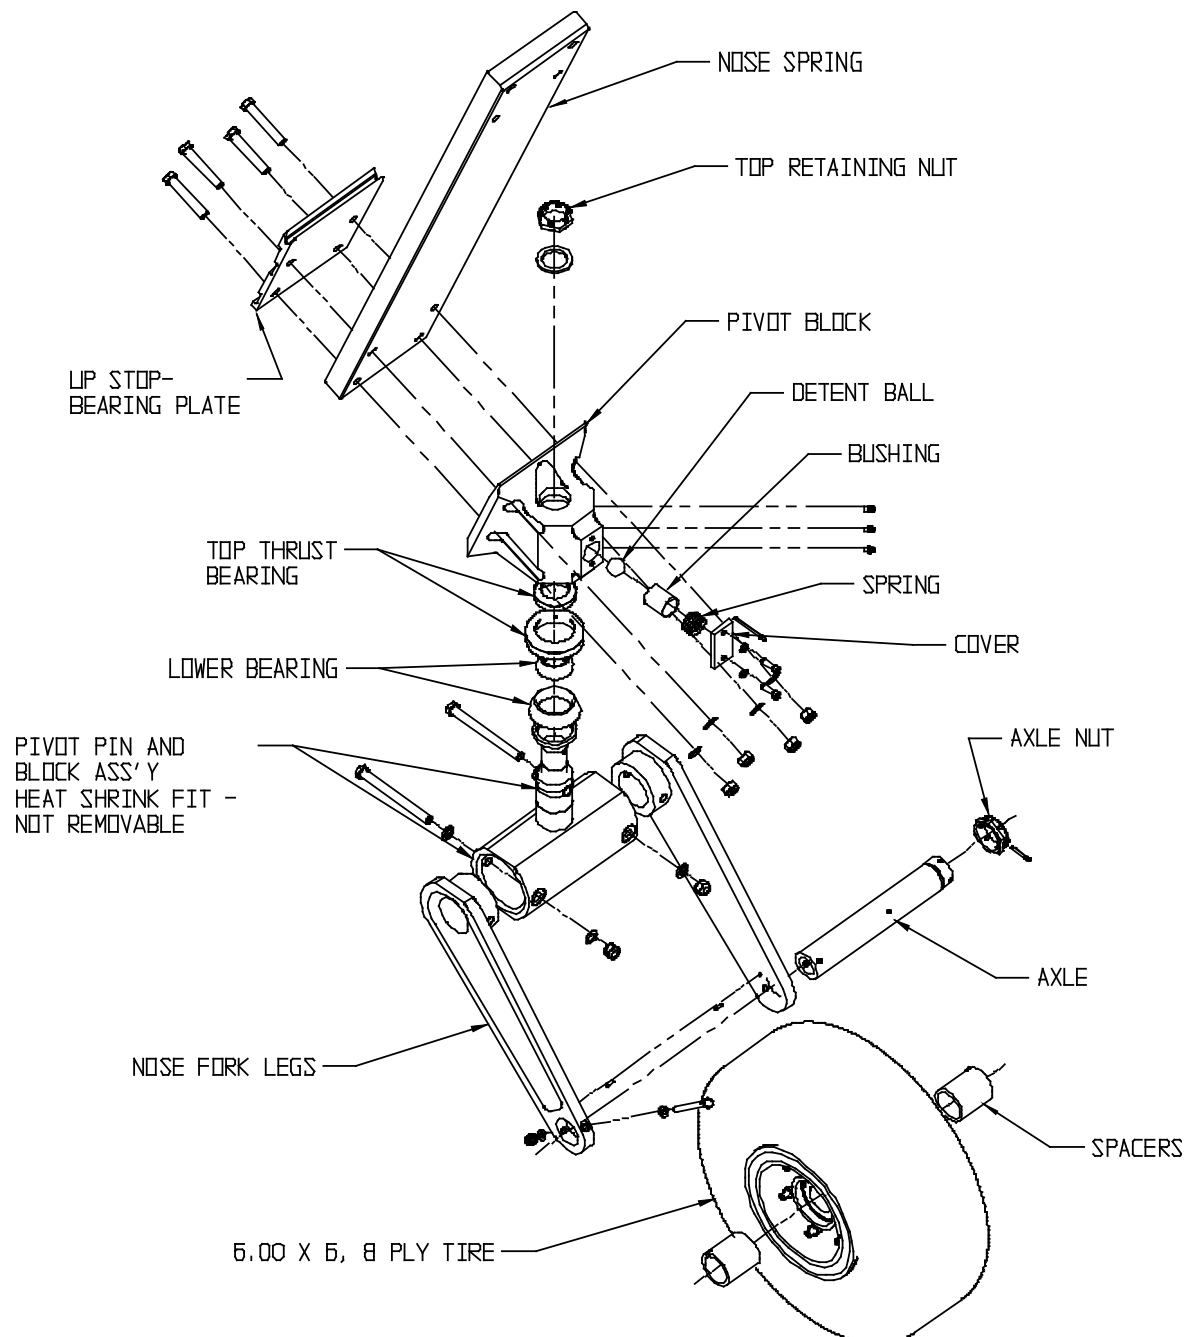

FIGURE 2.10 ASSEMBLY – NOSE GEAR LOWER END
On top of pivot block, remove cotter pin from retaining nut. Remove nut. On aft side of pivot block, remove the (2) cap bolts on .25 thick cover. Remove spring. This will loosen retaining ball and lower fork will slide out. Refer to figure 2.10 for assembly.